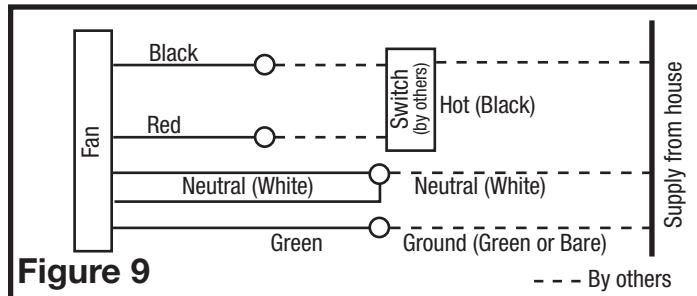

Figure 9
- 2b. From where you have chosen to access the fan's junction box, connect the White wire from the house to the two White wires from the fan. Connect one Hot (Black) wire from the wall switch to the Black wire from the fan (this is the fan control). Connect the second Hot (Red) wire from the wall switch to the Red wire from the fan (this is the main light control). Connect the ground wire (green or bare copper) from the house to the Green wire from the fan (Figure 9). Use approved methods for all connections.